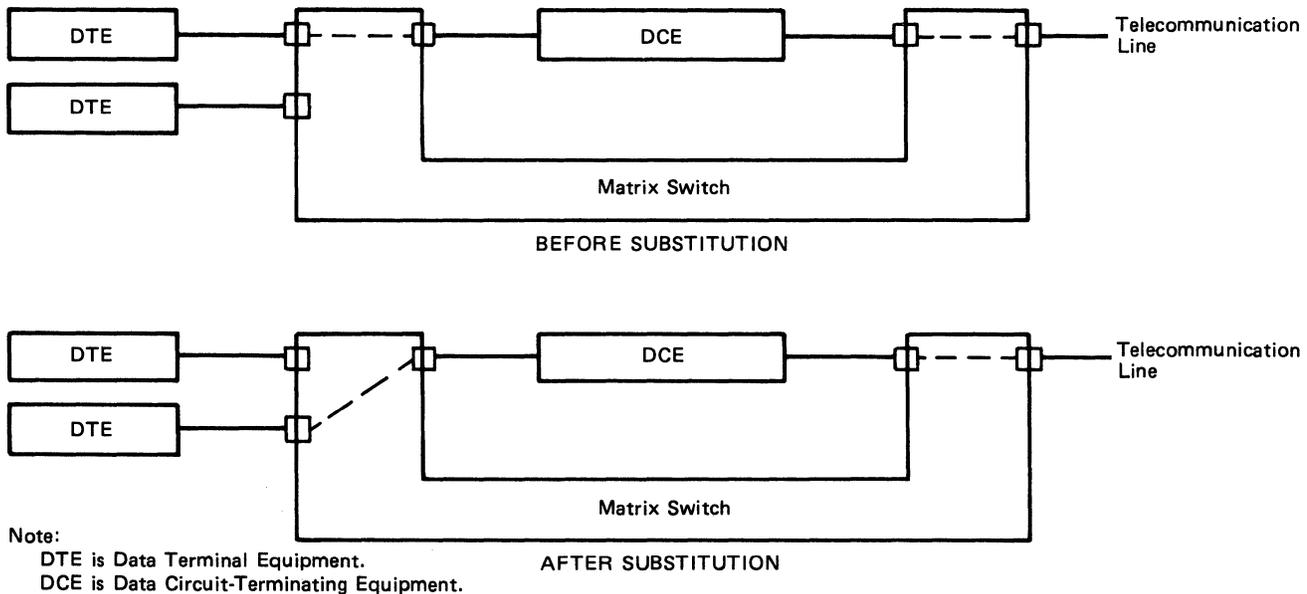

Figure 2-5. Port Substitution
- Substitute port connections. Substituting allows the operator to swap the connection at one port for the connection at another port. Figure 2-5 shows an example of port substitution.